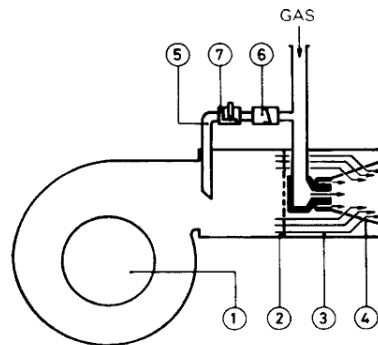

Fig.1
The burner is of the nozzle mixing type. The combustion air (see scheme of Fig.1) is sent to the burner by a blower with a flow rate set by an air damper placed on the blower inlet (1). The mixing of air and gas takes place at the exit from the nozzles, thus avoiding any possible flash-back. For normal operating the combustion air in excess conditions of 45 to 55 % reaches the burner through the air box (3) and a distribution plate (2). The wing (4) is made of heat resistant steel and covers the complete length of the burner, ensuring: